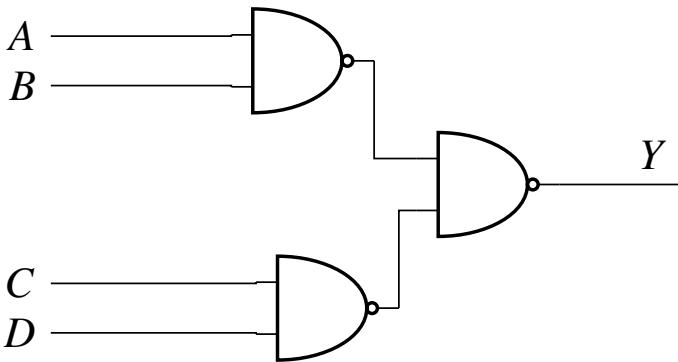

Fig. 3.35
52. In the logic circuit shown in Fig. 3.35, y is given by _____ (GATE-EE 2018, 14)